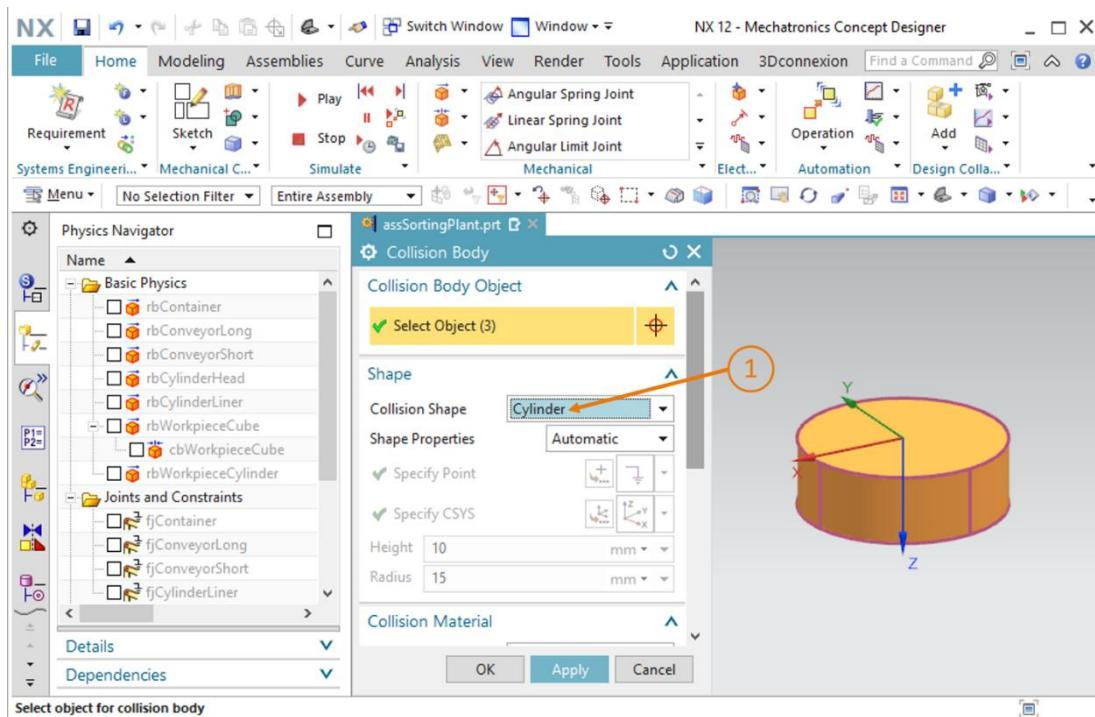

Figure 26: Creating the collision body for workpieceCylinder
- Because this is a cylindrical workpiece, "Cylinder" must be selected as the collision shape (see Figure 26, step 1).